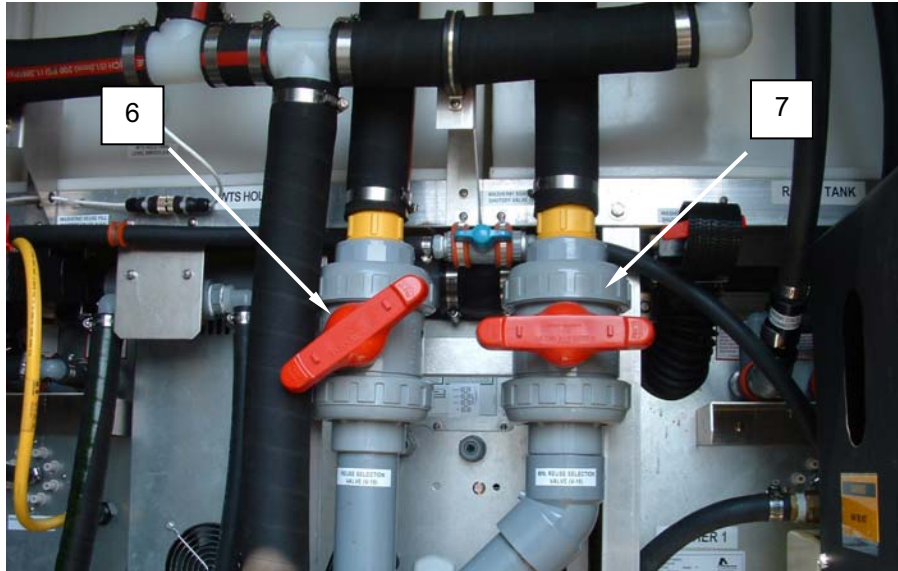

Figure 22. Valve Setting for Initial Fill.
3. Ensure that the bypass valves V-15 (**Figure 22, Item 6**) and V-16 (**Figure 22, Item 7**) are in the positions shown so that the water reuse system is engaged.